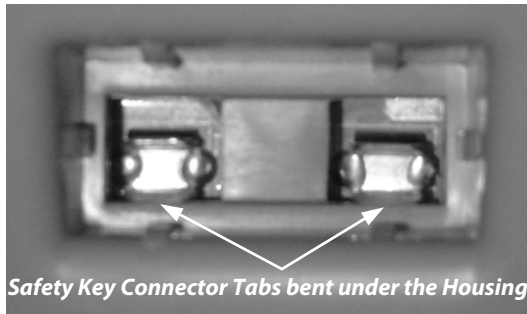
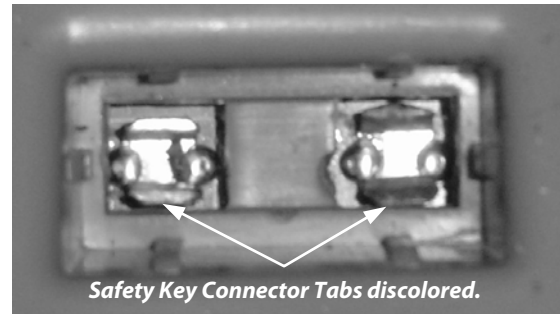

Figure 2
Figure 3
3. If there is damage to your Safety Key Connectors, one or more of the Tabs of the Safety Key Connectors may not be visible. The Tab may have been bent under the Mower Housing or been compressed onto the surface of the Mounting Board (**Figure 2**). The Safety Key Connector may also be discolored due to overheating (**Figure 3**). If either or both of these conditions exist, then the Safety Key will not maintain a secure connection and you should replace the Connector.